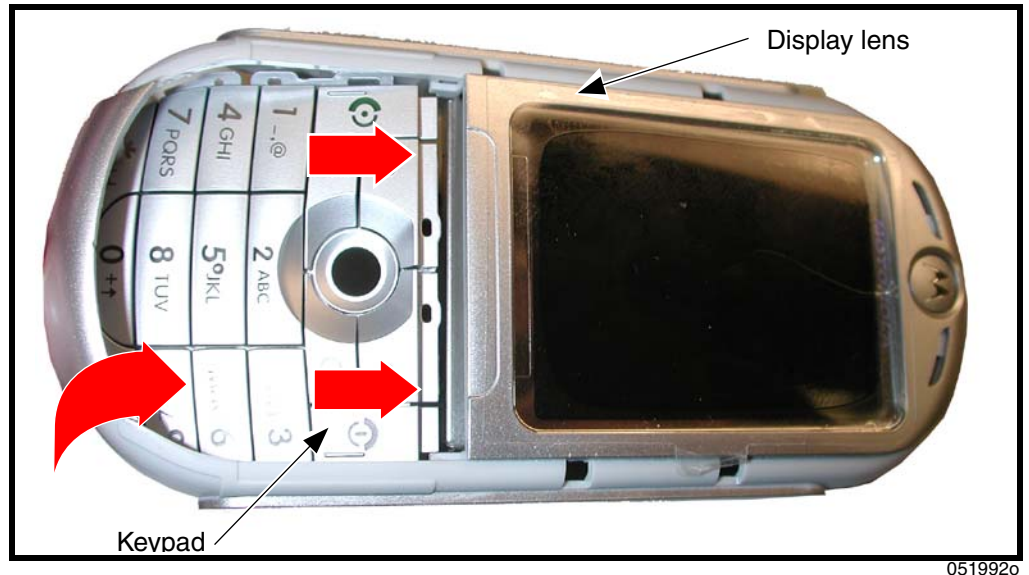

Figure 17. Installing the Keypad Assembly
5. Insert the straight edge of the keypad between the display lens and the display module (see Figure 17).